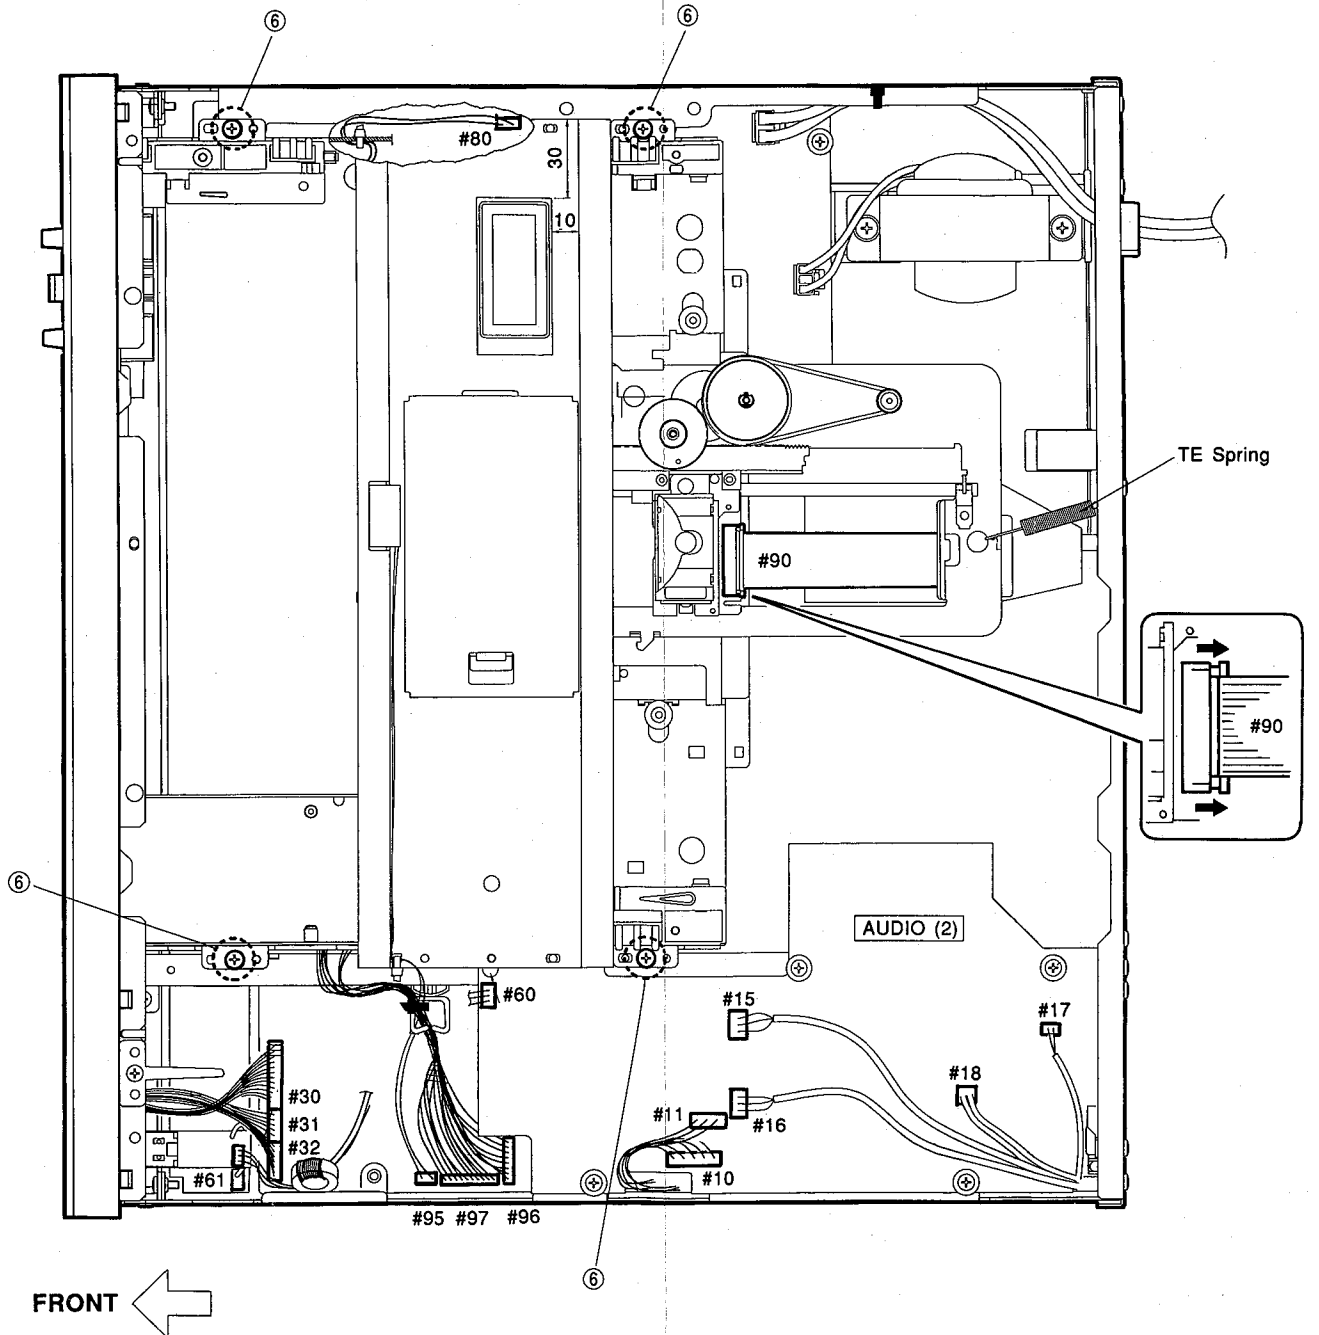

Fig. 5
- Remove the TE Spring. (Fig. 5)
- Remove 4 screws (⑥) and then remove the PU Mechanism Unit. (Fig. 5)